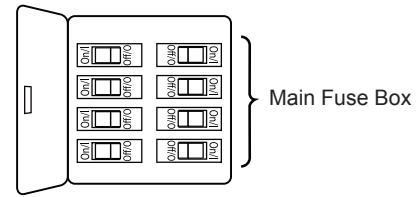

Figure 1
1. Position blade along the motor, aligning blade holes with holes in the top of the motor assembly flywheel. Make sure the blade is fully seated against the flywheel and install 3/16"-24 truss head screw with spring washer/flat washer and blade plate. Don't fully tighten at this time. (Figure 1)
- 1. Remove the hanger ball portion from the downrod/hanger ball assembly by loosening the set screw in the hanger ball until the ball falls freely down the downrod. Remove the pin from the downrod, then remove the hanger ball. Retain the pin and hanger ball for reinstallation in Step 6. (Figure 1)
To avoid possible fire or shock, be sure electricity is turned off at the main fuse box before hanging. (Figure 1)
1. To set the code on receiver unit, slide dip switches to the same positions as set on the remote control. (Figure 1)